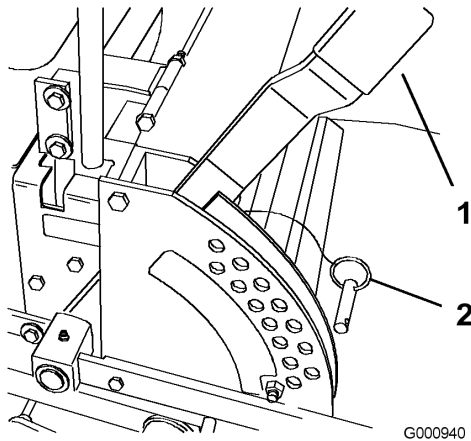

Figure 19
1. Raise the height-of-cut lever to the transport position (also the 4-1/2 inch (114 mm) cutting height position) (Figure 19).
2. To adjust, remove the clevis pin from the height-of-cut bracket (Figure 19).
3. Select a hole in the height-of-cut bracket corresponding to the height-of-cut desired and, insert the clevis pin (Figure 19).